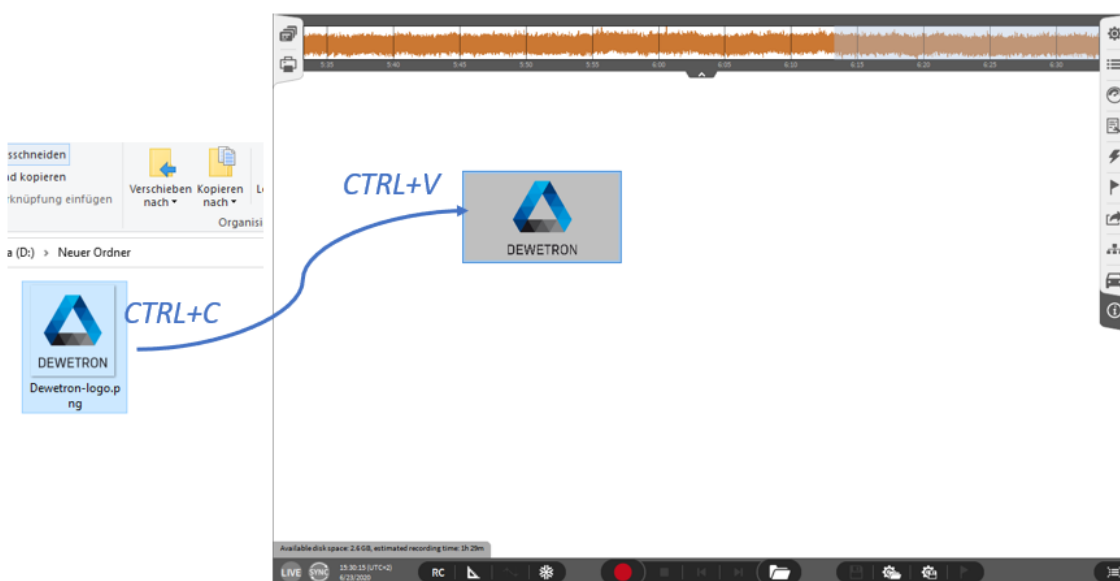

Fig. 8.99: Pasting an image file to the measurement screen
**Note:** An image file (.jpeg or .png) can also be copied and pasted directly from the Windows Explorer into the OXYGEN measurement screen (see Fig. 8.99).